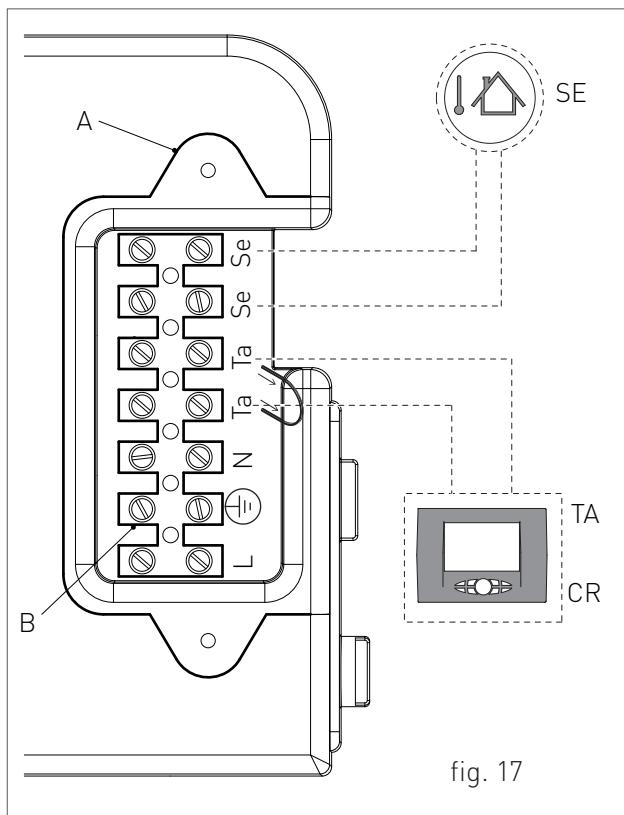

fig. 17
- Remove the front casing of the boiler (see 2.2.13 ACCESSING THE BOILER); unscrew the screws and remove plate "A" (see fig. 17).
- After removing the plate, connect the electrical cables to terminal "B" (see fig. 17):